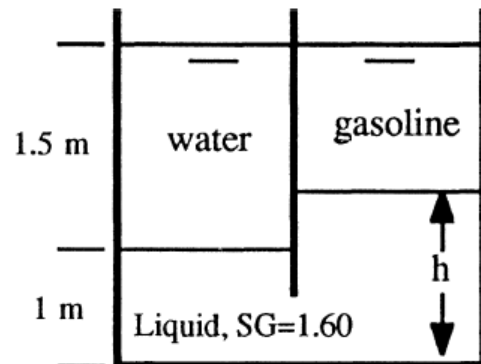

Fig. P2.13
2.13 In Fig. P2.13 the 20°C water and gasoline are open to the atmosphere and are at the same elevation. What is the height h in the third liquid?